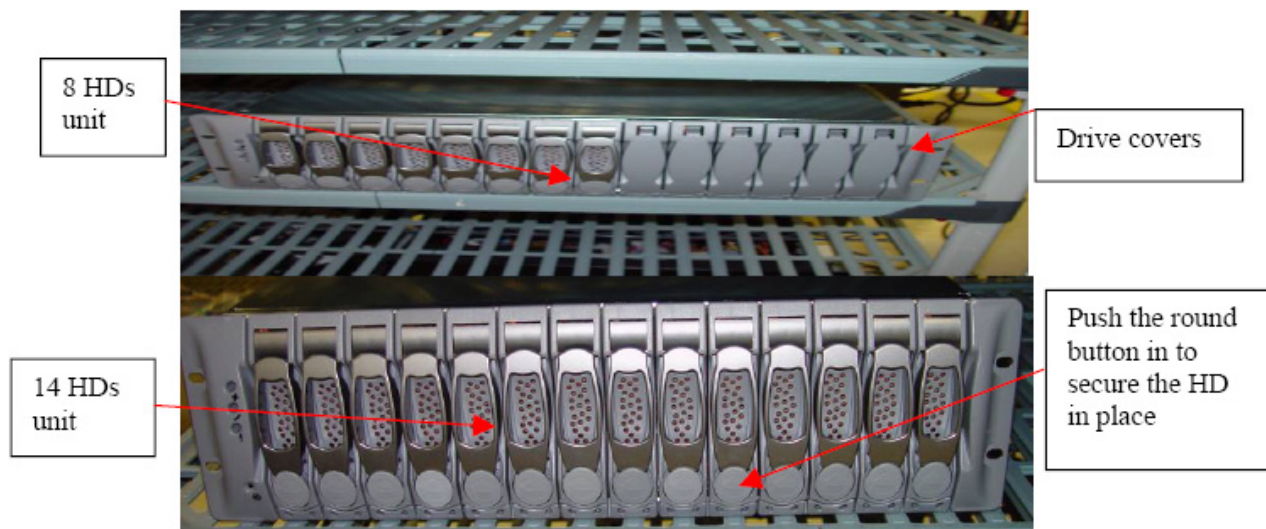

Figure 1
2. Push the round button down to secure HD in place. (See Figure 1)